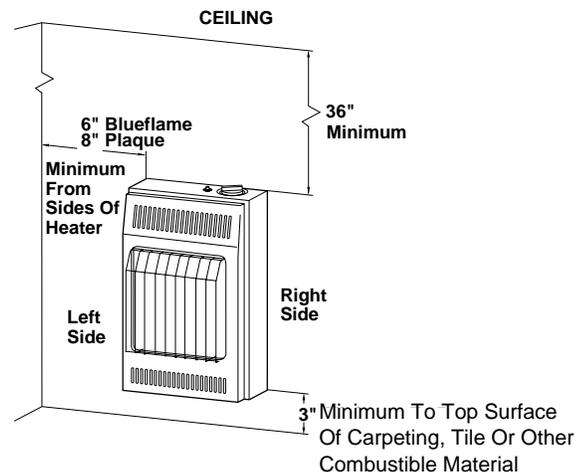

Figure 4 - Mounting Clearances As Viewed From Front of Heater
**⚠ WARNING:** Maintain the minimum clearances shown in Figure 4. If you can, provide greater clearances from floor, ceiling, and joining wall.